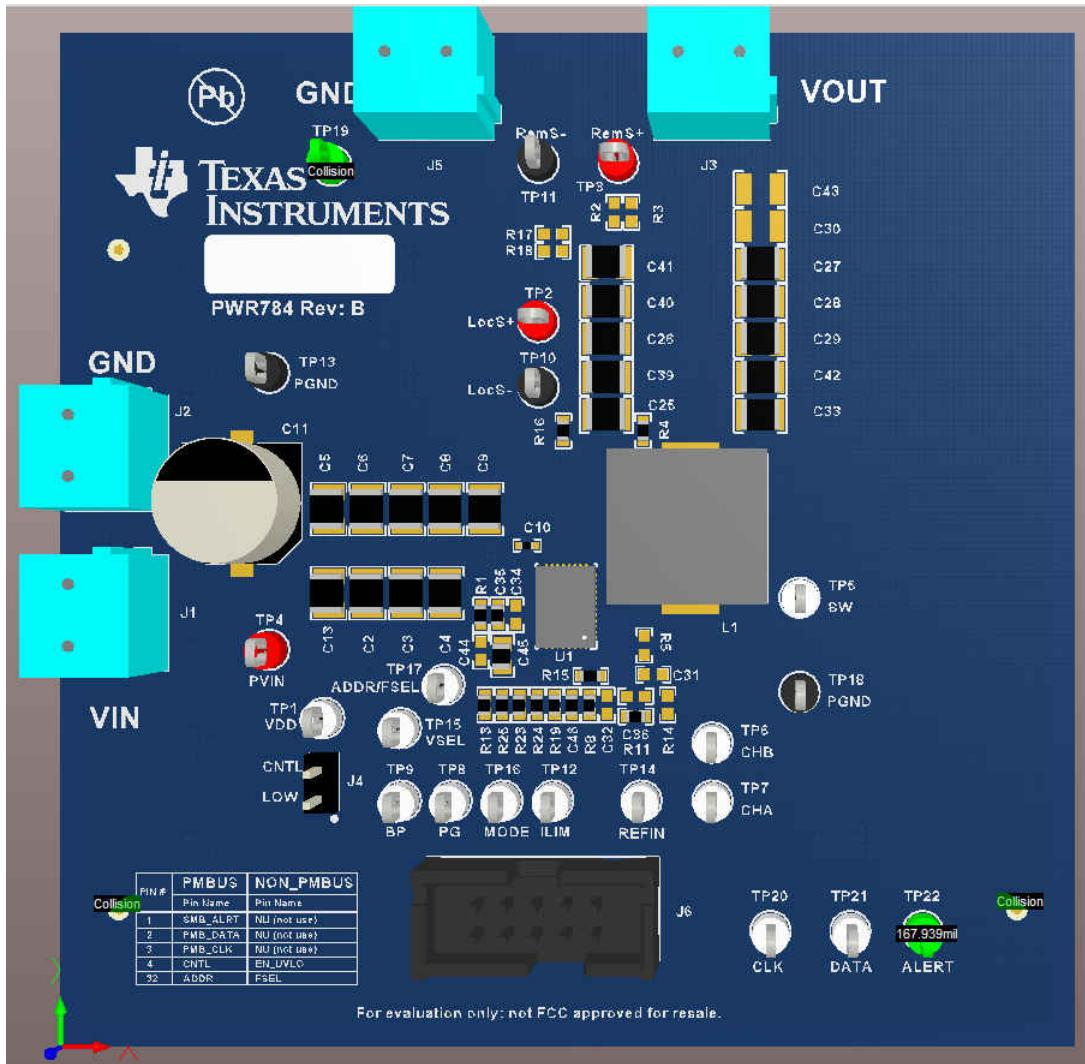

Figure 7-1. PWR-784EVM Overview
**Multimeters:** It is recommended to use two separate multimeters Figure 7-1. One meter is used to measure  $V_{IN}$  and one to measure  $V_{OUT}$ .
**Output Load:** A variable electronic load is recommended for testing Figure 7-1. It must be capable of 40 A at voltages as low as 0.6 V.
1. Connect VOUT to J3 and VOUT\_GND to J5 Figure 7-1.
3. Connect VIN to J1 and VIN\_GND to J2 Figure 7-1.